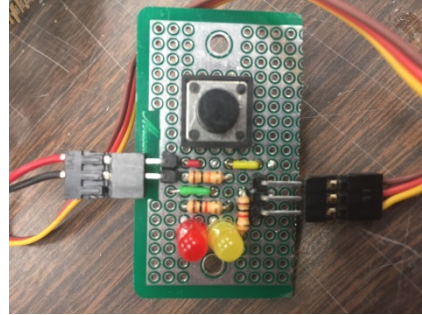

Figure 8: Power jumper to User Interface board.
- 8) Take the other end of the wire and connect it to the User Interface. Make sure that the pin 2 color wire is connected to the header closest to the yellow wire on the board as seen in Figure 8.